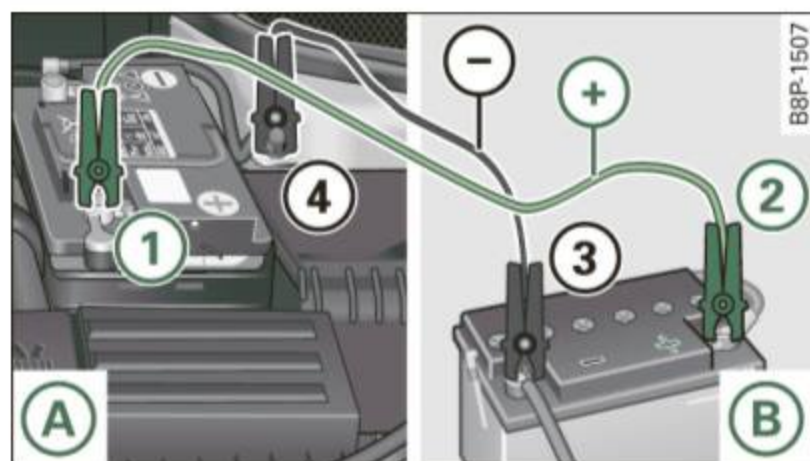

Fig. 197 Jump-starting with the battery of another vehicle: A - discharged vehicle battery, B - booster battery
If you provide start assistance for others with your vehicle, you should not clamp the minus cable (-) to the negative terminal of the discharged battery ⇒ *page 288*, fig. 197 ④ but to a solid metal part screwed firmly to the engine block, or to the engine block itself. In case of an inadequately ventilated battery of the vehicle receiving power, there is a danger of explosion due to detonating gas! ■
4. Connect one end of the red jumper cable to the positive terminal (1) ⇒ fig. 197 of the discharged battery (A) ⇒ ⚠ in "General information of starting assistance" on *page 287*.
5. Connect the other end of the red jumper cable to the positive terminal (2) of the booster battery (B).
6. Connect one end of the black jumper cable, preferably at the ground point. Otherwise, connect it to the negative terminal (3) of the booster battery (B).
7. Connect the other end of the black jumper cable to the **ground point (bolt head) (4) in your vehicle (A)**.
- Please note that the procedure for connecting a jumper cable as described above applies specifically to the case of your vehicle being jump started. When you are giving a jump start to another vehicle, do *not* connect the minus (-) cable to the minus (-) terminal on the discharged battery  \Rightarrow *page 288*, fig. 197. Instead, securely connect the minus (-) cable to either a massive metal component that is firmly bolted to the engine block or to the engine block itself. If the battery that is being charged does not vent to the outside, escaping battery gas could ignite and explode! ■